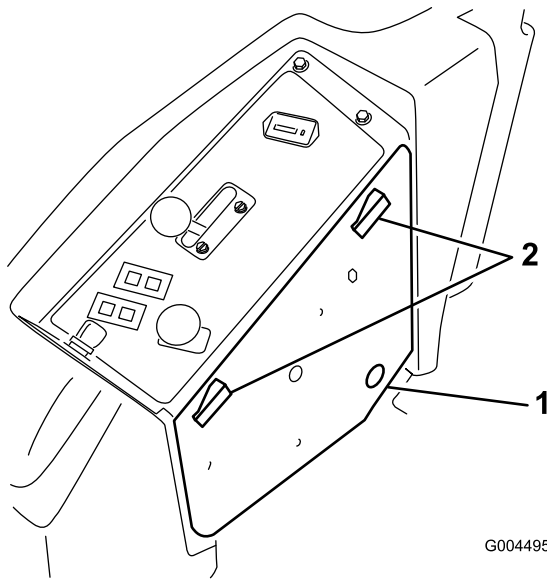

Figure 5
1. Unlatch the side cover of the control panel (Figure 5) and set it aside.